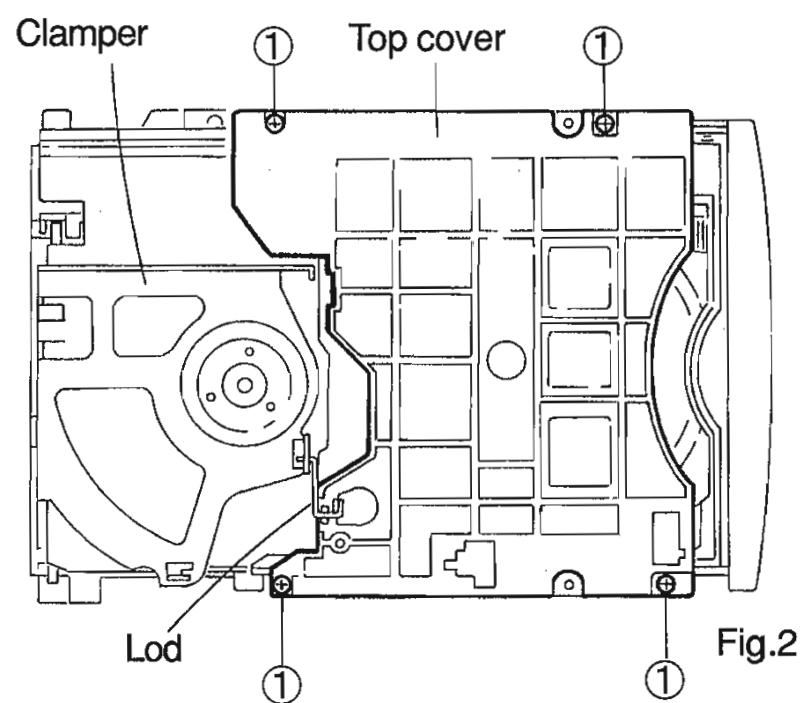

Fig.2
2. Remove the four screws 1 retaining the top cover (See Fig.2).
3. After pulling out the rod from the clamber, remove it together with the top cover (See Figs.2 and 2a).